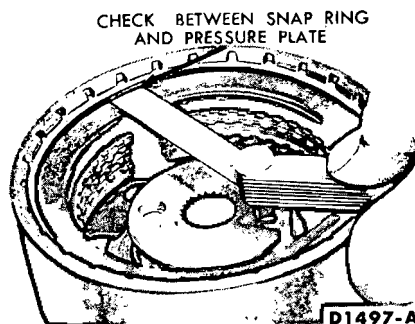

FIG. 61—Checking Forward Clutch Snap Ring Clearance
5. With a feeler gauge, check the clearance between the snap ring and the pressure plate (Fig. 61). Downward pressure on the plate should be maintained when making this check. The clearance should be 0.048-0.061 inch.